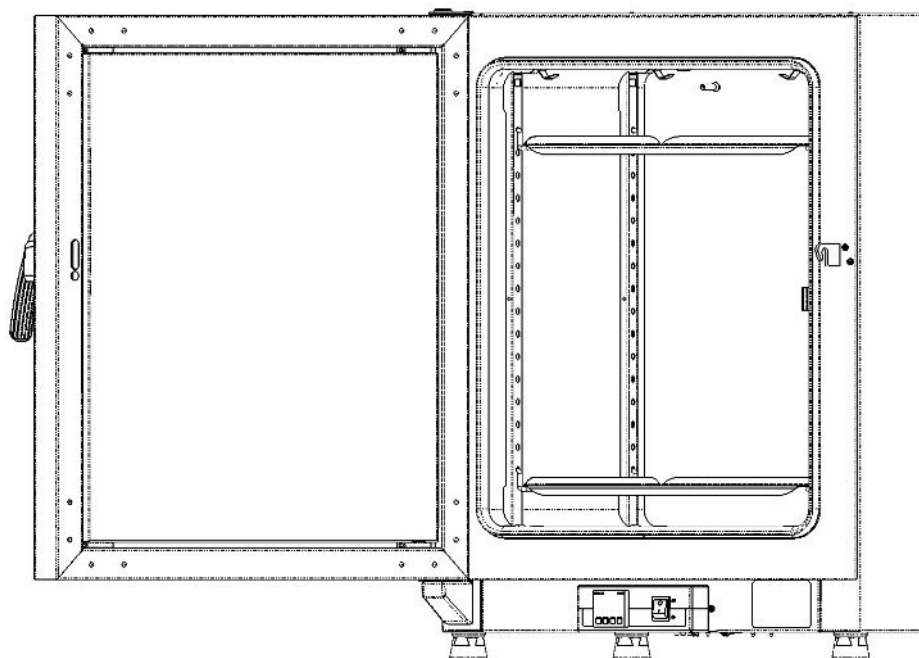

Figure 10-1. Door seal replacement
2. Starting on the hinge side of the door, position the seam of the new seal at the location indicated by the arrow in Figure 10-1 above.